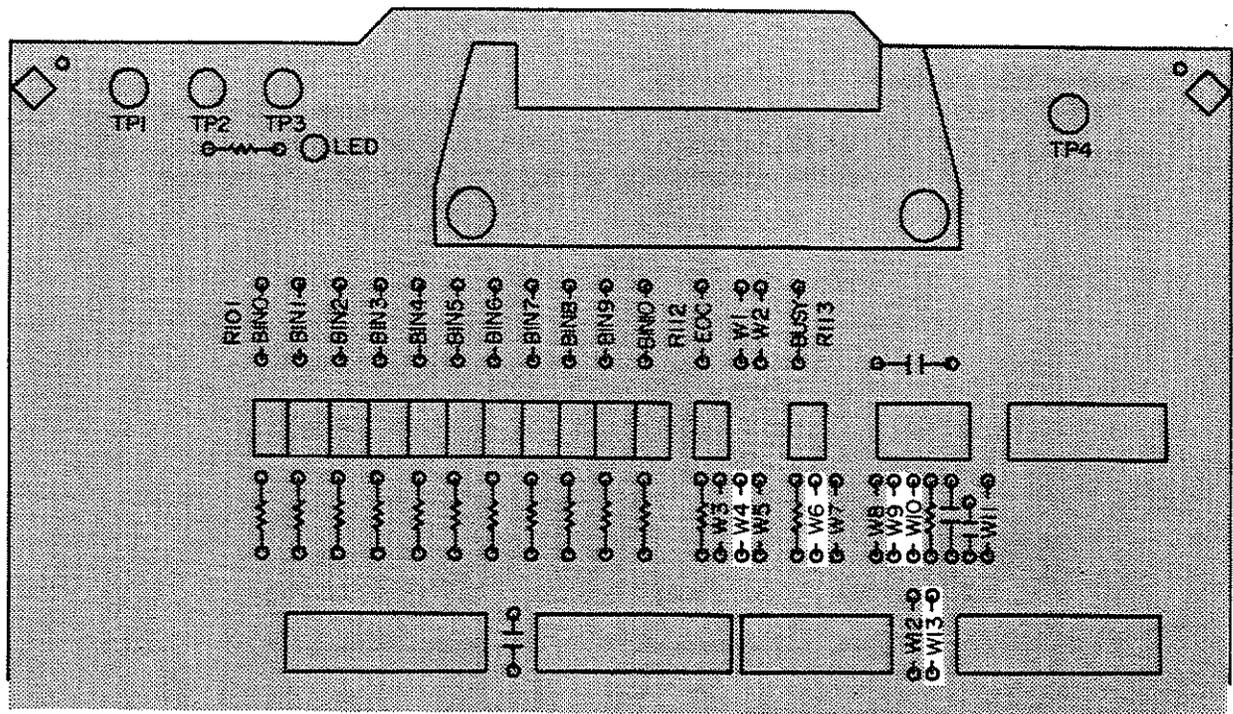

Figure 3-5. Jumper and Pull-Up Resistor Locations for Standard Configuration
2. Configure the following interface signals by installing the jumpers as shown in Figure 3-5.